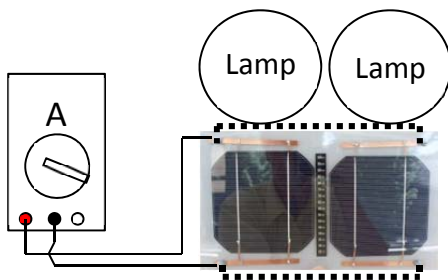

Fig. 2.3: Connections for measuring short circuit current with solar cells connected in parallel.
Connect the two cells in parallel and use the amp meter to measure the short circuit current as shown in Fig. 2.3
4. Next, connect the cells in parallel and set-up the amp meter to measure the short circuit current output from the PV module (see Fig. 2.3). Cover the cells by the various amounts listed and record the current in Table 2.2.